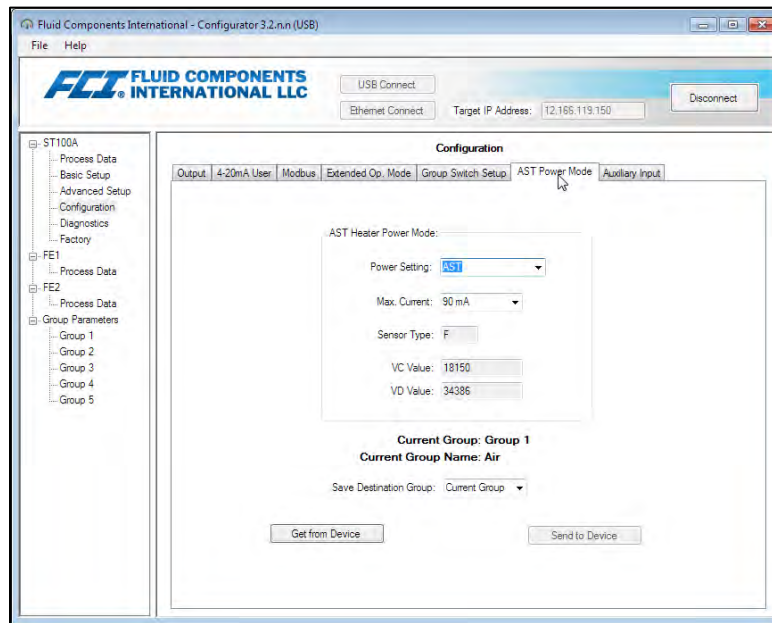

Figure 46 – Example AST Power Mode Tab (Configuration)
1. Access the **AST Power Mode** tab from the **Configuration** branch of the menu tree. See Figure 46 below.